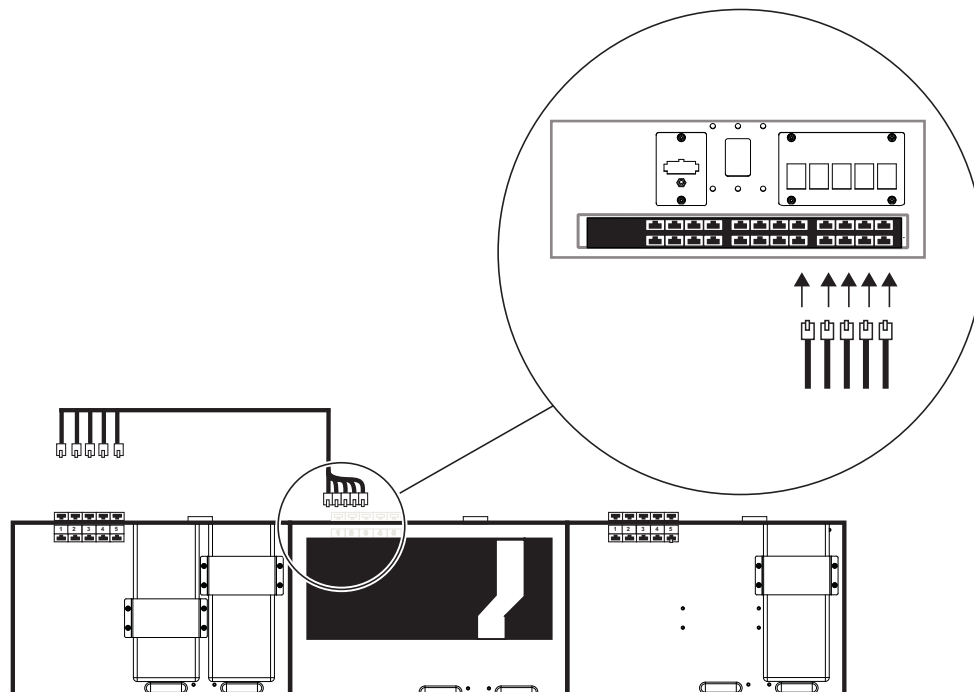

Figure 17. Connecting the first Cable Set to the Ethernet switch (top view shown at lower left; back view of chassis shown at upper right)
- 2 Standing behind the chassis containing the Ethernet switch, connect cables 1–5 of the first Cable Set to ports on the Ethernet switch by feeding them through the slot in the Back Tie Plate as shown in Figure 17. In addition: